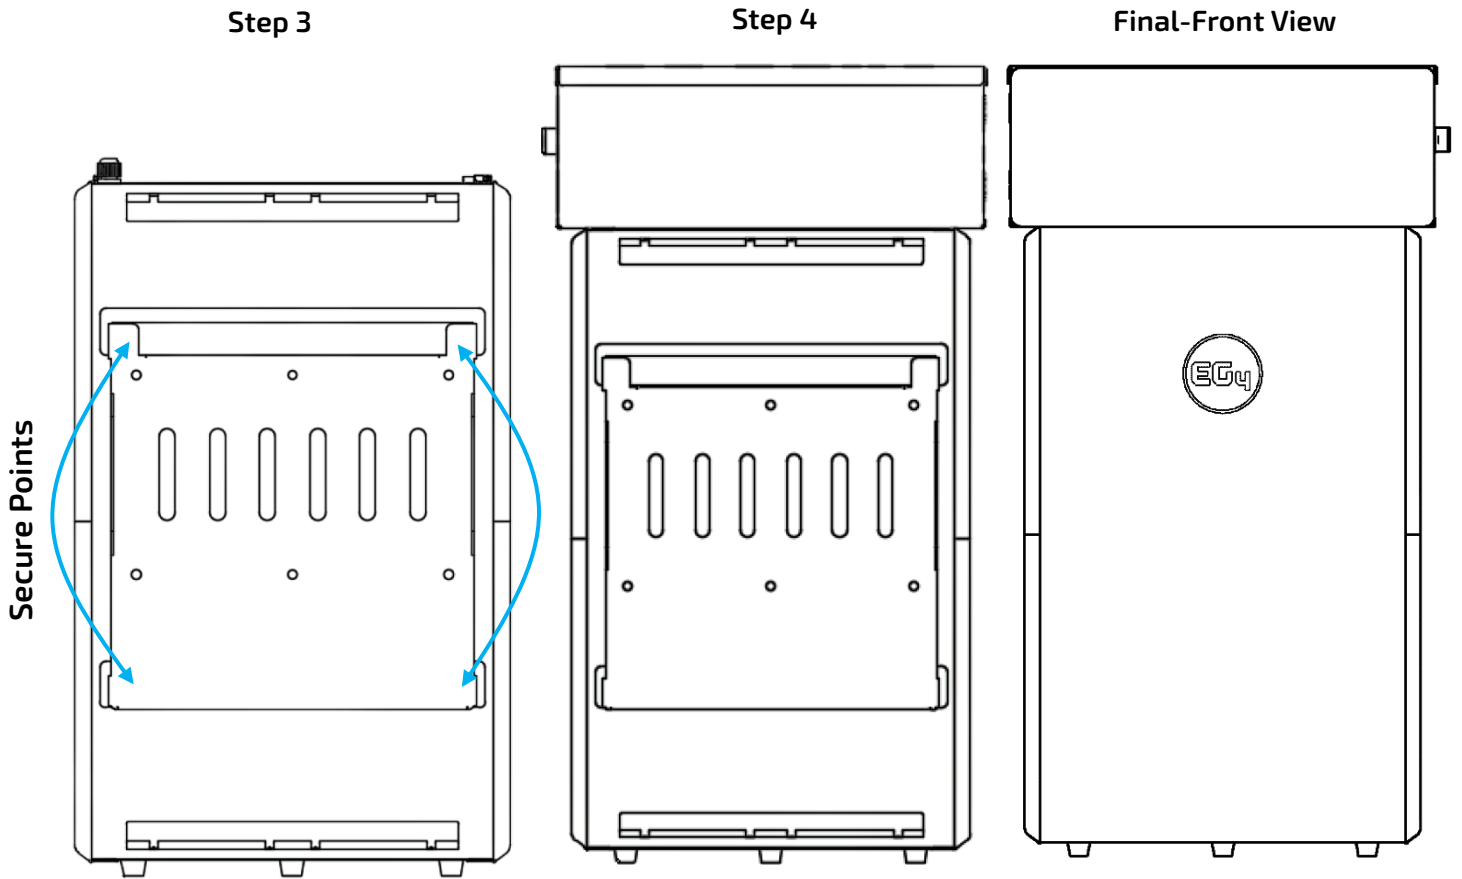

Figure 14 - WallMount Installation with Conduit Box Steps 3, 4 & 5
3. Attach the WallMount battery pack to the mounting bracket. To accomplish this, lift the battery up and hook the flange on the back of the battery into the flange on the front of the mounting bracket. Secure the battery to the mounting bracket with the 4 included side screws (see Figure 14)